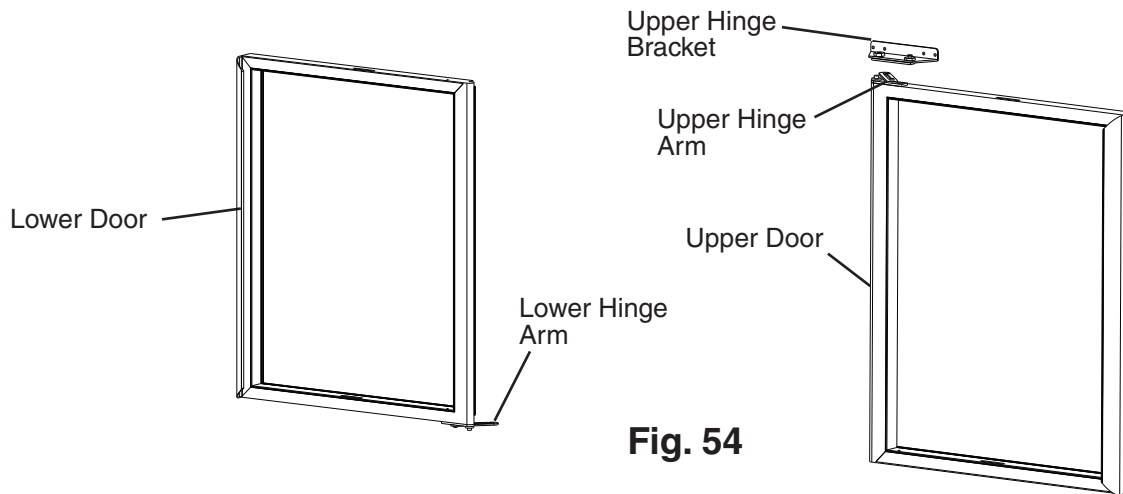

Fig. 54
- 18) Rotate the lower door (making it the upper door) 180 degrees. Rotate the lower hinge bracket 180 degrees. Confirm the thrust washer is in place on the door, then place the new upper hinge bracket onto the upper door pin. See Fig. 54.